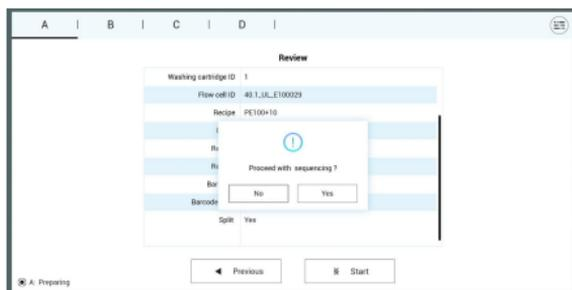

Figure 8-5: Confirm Sequencing Interface
- After confirming that all the information is correct, click “Start” and select “Yes” (see Figure 8-5):